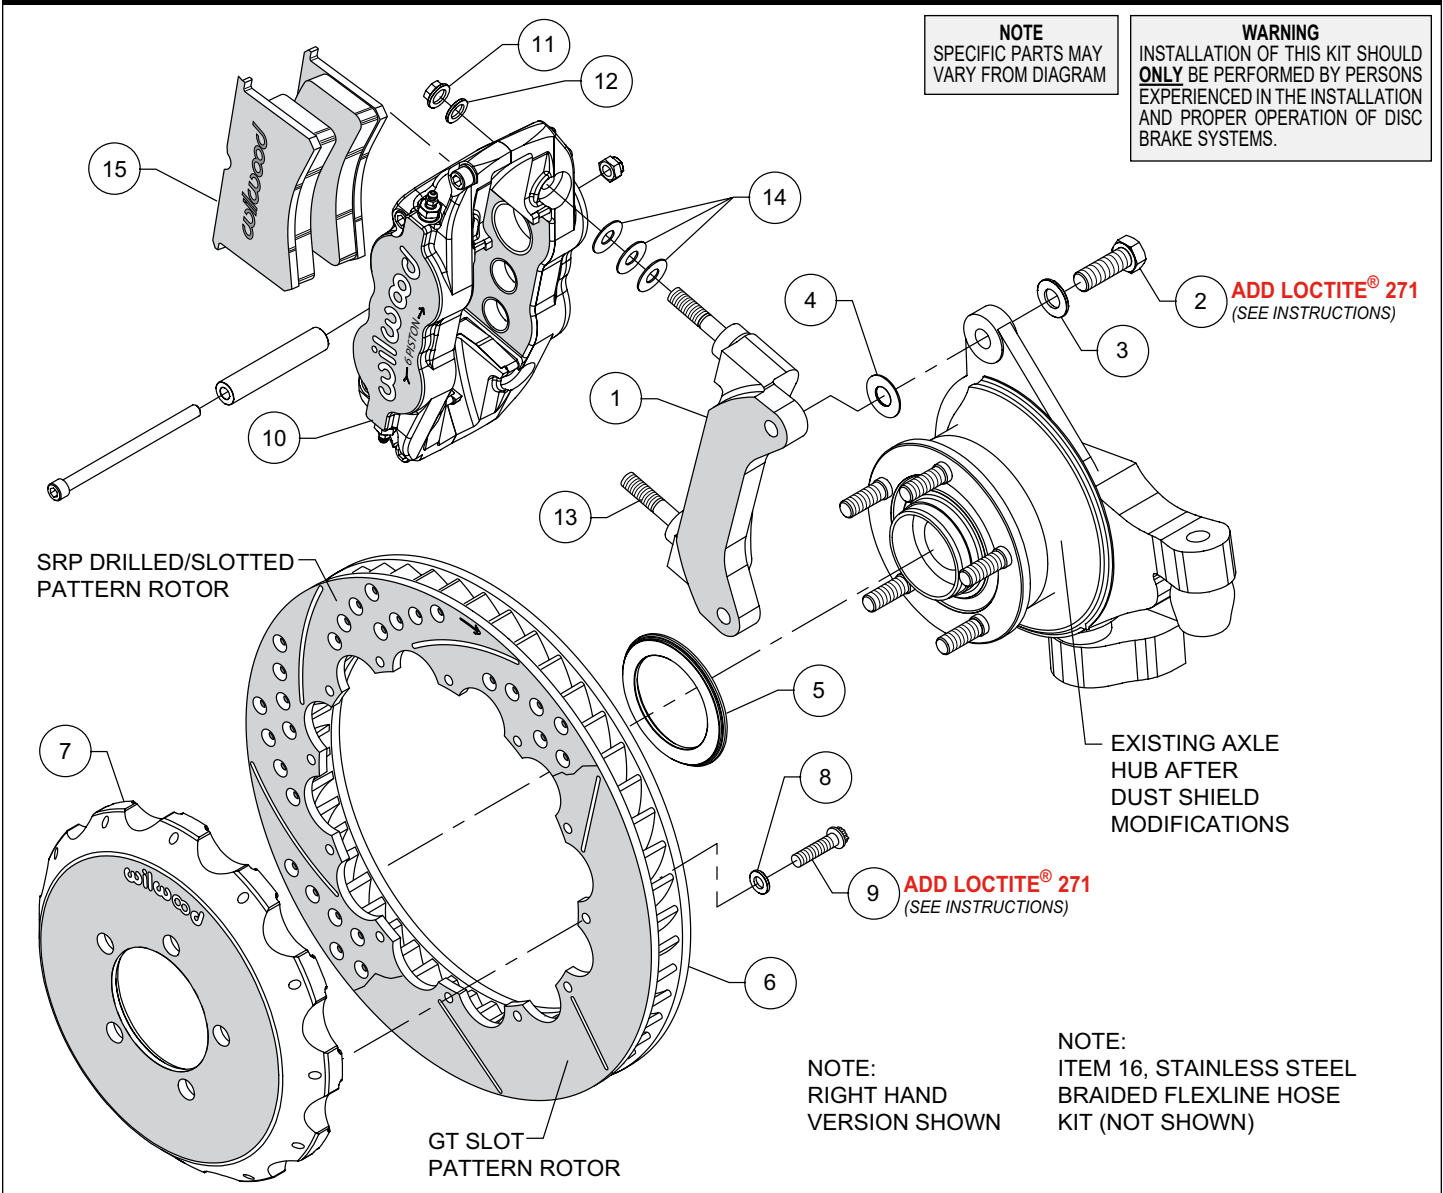
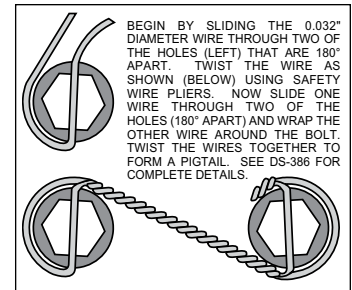

Figure 1. Typical Installation Configuration
Figure 4. Safety Wire Diagram
Assembly Instructions (numbers in parenthesis refer to the parts list and Figure 1 on the preceding pages):
- The caliper mount bracket (1) should initially be installed with clean, dry threads on the mounting bolts. Orient the bracket as shown in Figure 1, and install using washers (3) and bolts (2). Initially place one shim (4) on each bolt between the bracket and upright, Figure 1. Temporarily tighten the mounting bolts. **NOTE:** The bracket must fit squarely against the mount bosses on the upright. Inspect for interference from casting irregularities, machining ridges, burrs, etc. Later, after the caliper alignment has been checked, the mount bolts will be secured using red *Loctite*® 271.
- Orient the rotor (6) and the hat (7) as shown in Figure 1 and Photo 1. Attach rotor to hat using bolts (9) and washers (8). Apply red *Loctite*® 271 to the bolt threads and torque to 155 in-lb using a criss-cross pattern. For an added measure of security, the bolts may be safety wired using standard 0.032 inch diameter stainless steel safety wire as shown in Figure 4. Please refer to Wilwood's data sheet DS-386 (available at www.wilwood.com/Pdf/DataSheets/ds386.pdf) for complete safety wire installation instructions.
- NOTE:** This kit contains distinct right and left hand calipers that must be mounted in a specific direction, as described below. Initially place three .035" thick shims (14) on each stud (13) as shown in Figure 1 and Photo 3. Mount the caliper (10) onto the bracket (1) using lock nuts (11) and washers (12), Figure 1. Ensure that the caliper is mounted so that the largest pistons are at the rotor exit end of the caliper, in relation to the direction of rotor rotation. Temporarily tighten the lock nuts and view the rotor through the top opening of the caliper. The rotor should be centered in the caliper, Photo 4. If not, adjust by adding or subtracting shims (4) between the bracket and the upright. Always use the same amount of shims on each of the two mounting bolts. Once the caliper alignment is correct, remove the bracket mounting bolts (2) one at a time, apply red *Loctite*® 271 to the threads, and torque to 60 ft-lb.